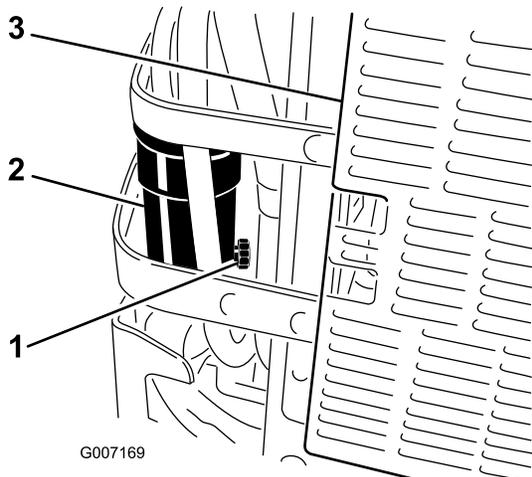

Figure 53
6. Open the drain valve on the water separator approximately 1 turn to allow water and other contaminants to drain (Figure 53).
7. Close the drain valve when only diesel fuel comes out (Figure 53).